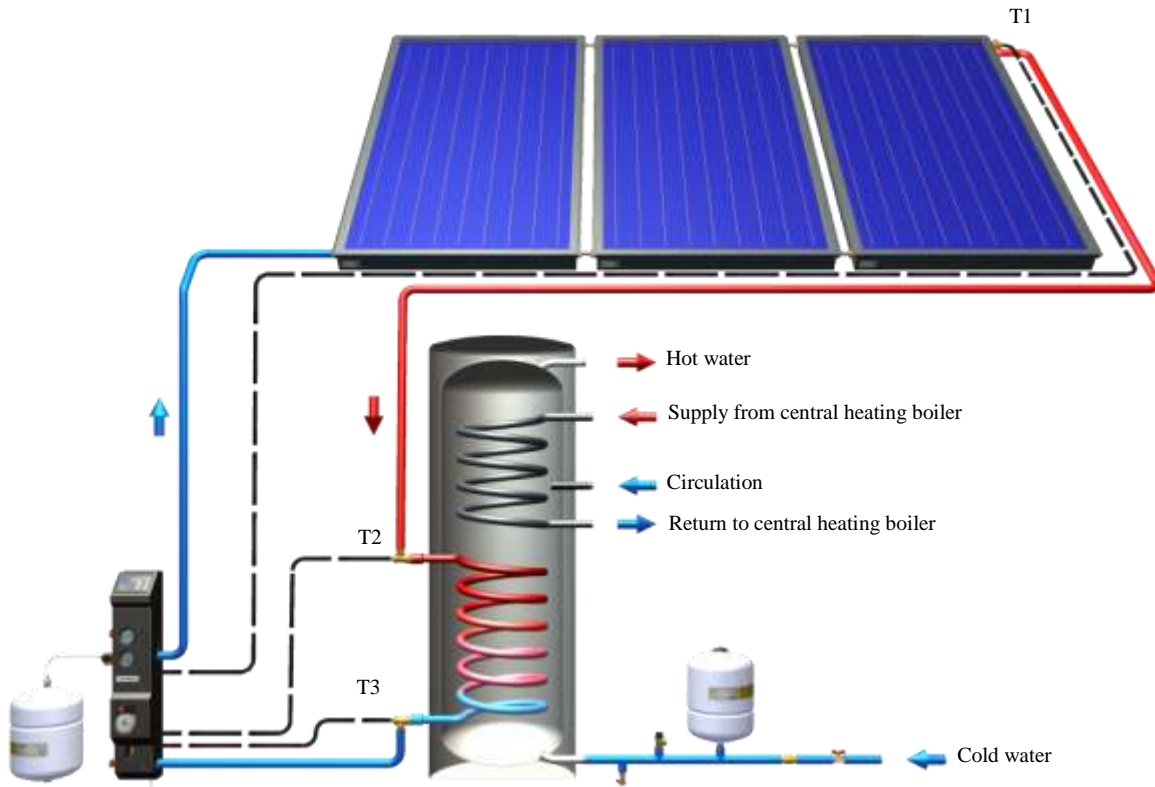

Fig. 2
- b. Connect the hydraulic connections of the pump and control unit with the solar collectors, the boiler, and the expansion tank, as shown in the schematic diagram of the system (fig. 2).